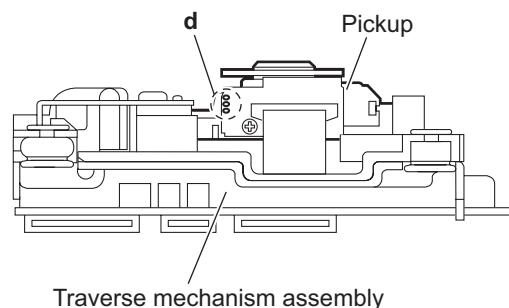

Fig.4
3.2.4 Removing the DVD module board (See Figs.4 and 5)
- (1) From the side of the traverse mechanism assembly, solder the short land sections **d** on the pickup. (See Fig.4.)
- Solder the short land sections **d** on the pickup before disconnecting the card wire from the connector CN101 on the DVD module board. If the card wire is disconnected without attaching solder, the pickup may be destroyed by static electricity. (See Figs.4 and 5.)
- When attaching the DVD module board, be sure to remove solders from the short land sections **d** after connecting the card wire to the connector CN101 on the DVD module board. (See Figs.4 and 5.)
(See Figs.4,6 to 8)
- Solder the short land sections **d** on the pickup before disconnecting the card wire from the connector on the pickup. If the card wire is disconnected without attaching solder, the pickup may be destroyed by static electricity. (See Figs.4 and 6.)
- When attaching the pickup, be sure to remove solders from the short land sections **d** after connecting the card wire to the connector on the pickup. (See Figs.4 and 6.)
(See Figs.4,6 to 9)
- (4) Remove solders from the short land sections **d** after connecting the card wire to the connector on the pickup. (See Figs.4 and 6.)